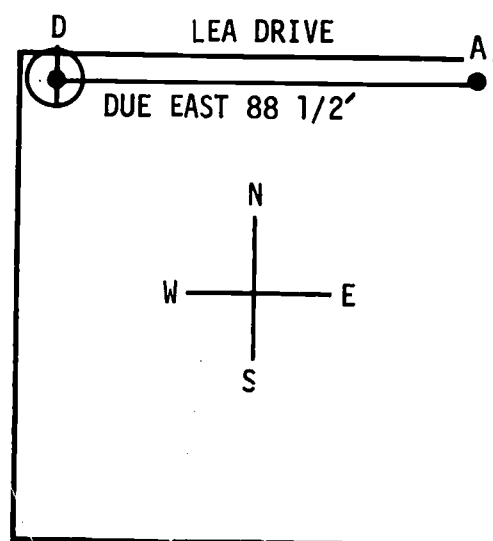
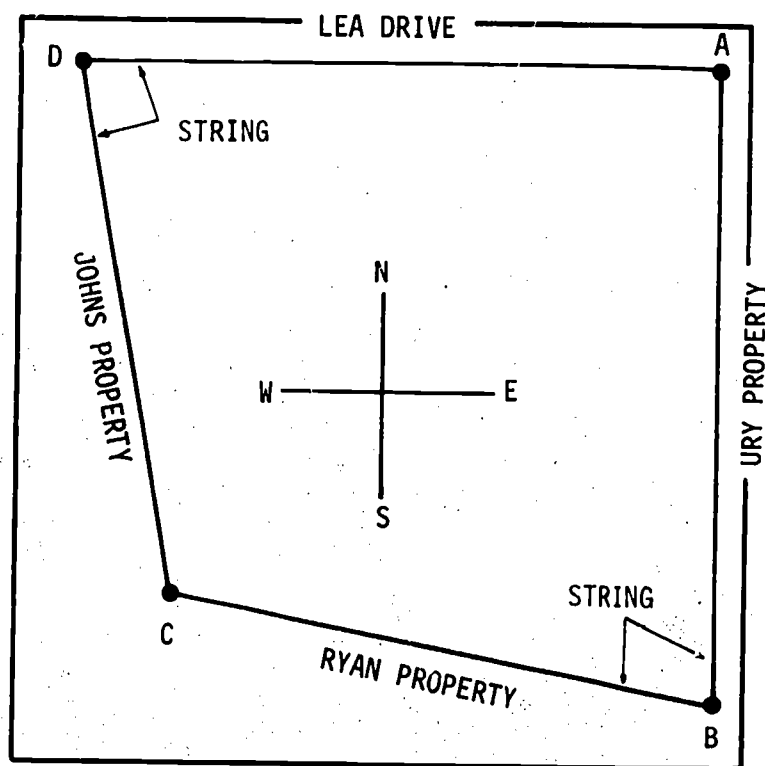

Fig. 7-9. Checking Point A
Fig. 7-10. Plot Plan
13. Place the direction circle over Point D, and measure $88\frac{1}{2}'$ along the south line of Lea Drive to the place of beginning (Point A). See Fig. 7-9. Join Points A, B, C, D with a piece of string. See Fig. 7-10.
14. When you finish, your layout should look like the plot plan in Fig. 7-10.